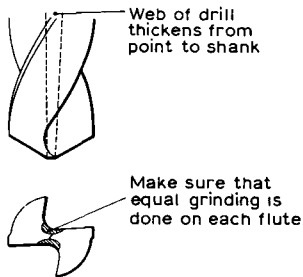

Fig. 4.75 Shows details of the web
**The web of the drill.** Fig. 4.75 shows the web of a drill and how it may be thinned.